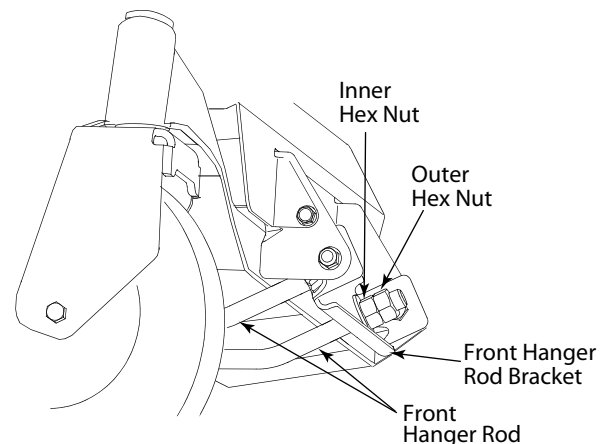

Figure 6-7
- From the front of the tractor, loosen the outer hex nuts on the deck front hanger rod and turn them away from the inner nuts. Refer to Figure 6-7.
- If the front of the deck was too low, turn the inner hex nuts clockwise against the hanger bracket to shorten the front hanger rod and raise the front of the deck. Refer to Figure 6-7.